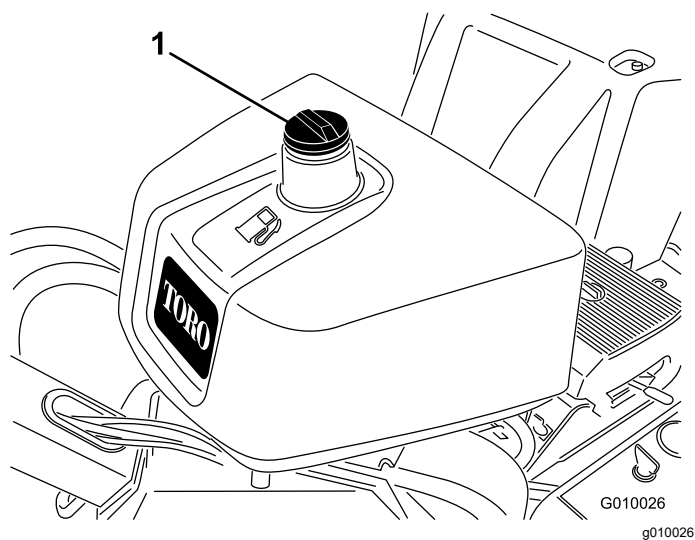

Figure 15
2. Clean around the fuel-tank cap and remove it (Figure 15).